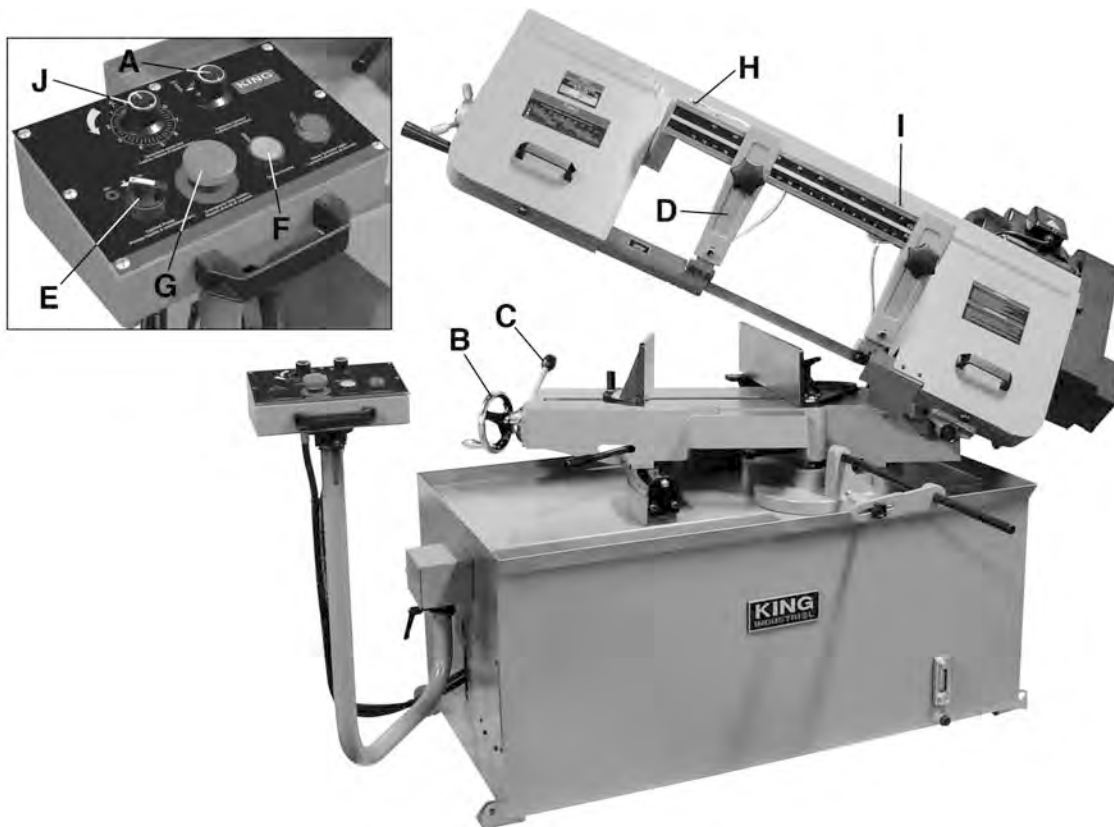

FIGURE 26
3. Raise the saw frame and close the feed on/off knob (A) Fig.26.
4. Place workpiece between the vise jaws. Adjust the stock for the desired length of cut, tighten the vise handwheel (B) and lower the cam lock lever (C) to firmly secure workpiece.
5. Make sure the blade guide control arm (D) is adjusted as close as possible to the workpiece.
6. Turn the coolant selector (E) to the "On" position, then turn machine on by pressing the "On" button (F). Note: If the "Emergency stop/off" button (G) is pressed, it needs to be twisted until it pops out or the bandsaw will not start. Just in case, keep your finger near the "Emergency stop/off" button at all times during the operation. The bandsaw should run smoothly with little or no vibration.
8. Turn the feed rate control knob (J) counterclockwise until the saw blade begins to lower, see the feed rate guideline section below as reference.
When the feed rate control knob (J) Fig.26 is turned clockwise as far as it will go, the saw frame will not move down, but can be raised to the up position. Turning the feed rate control knob counterclockwise, the flow of oil from the cylinder is regulated and determines the speed at which the saw frame will lower and the blade will feed through the work. Too many factors are involved to make tabulated data practical on feed rates. As a general rule, an even downward pressure without forcing the blade gives best results. Burned chips indicate excessive feed, which causes the teeth to break off as the blade overheats. The ideal feed rate is indicated by chips that have a free curl and this will give the fastest cutting time and longest blade life.